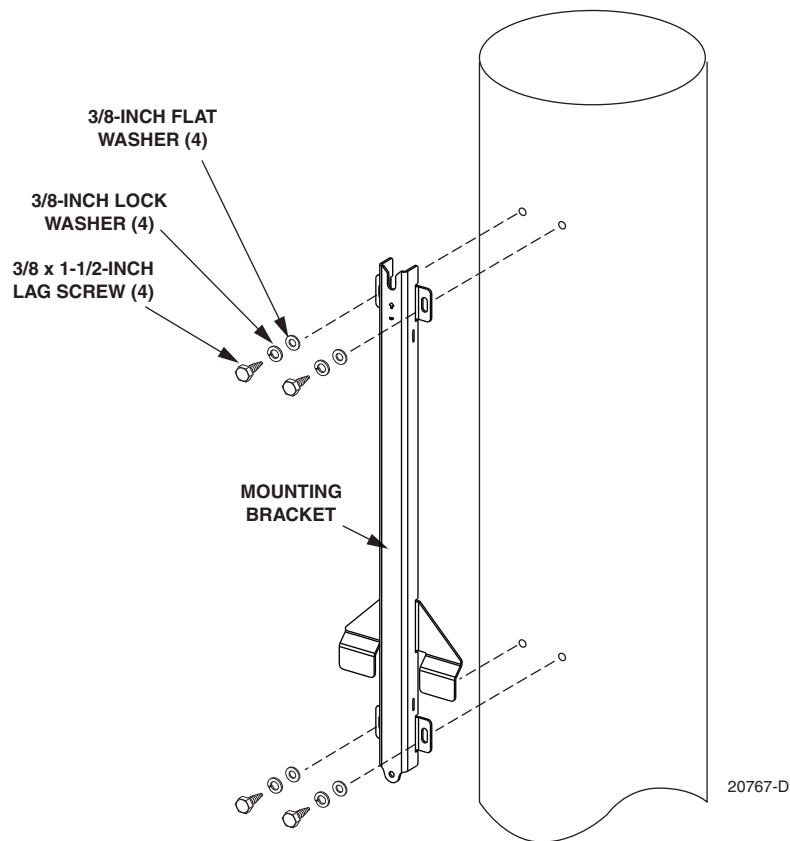

Figure 3-6: Secure Standard Mounting Bracket To a Metal Pole
- 1 Insert the two sections of stainless steel metal strapping (provided with the enclosure) through the slots in the mounting bracket and place in position for mounting as shown in Figure 3-6. The end with the V-notch should be at the top.